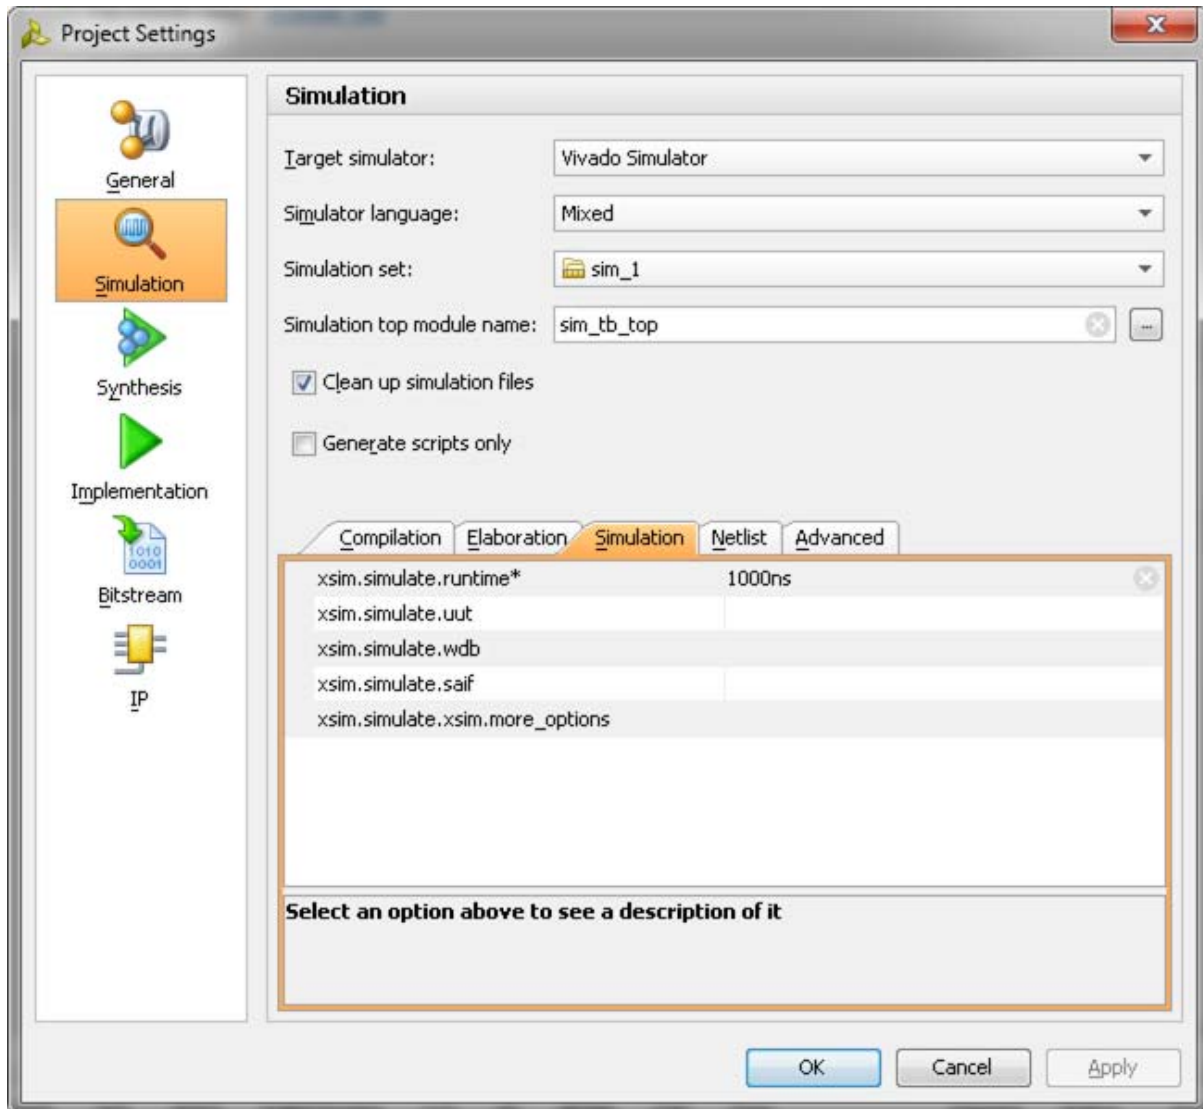

Figure 3-64: Simulation with Vivado Simulator
1. In the **Open IP Example Design** Vivado project, under **Flow Navigator**, select **Simulation Settings** (Figure 3-64).
2. Under the **Simulation** tab as shown in Figure 3-64, set the `xsim.simulate.runtime` as 1 ms (there are simulation RTL directives which stop the simulation after certain period of time, which is less than 1 ms). Apply the settings and select **OK**.
- b. Under the **Simulation** tab, set the `modelsim.simulate.runtime` to 1 ms (there are simulation RTL directives which stop the simulation after certain period of time, which is less than 1 ms), set `modelsim.simulate.vsim.more_options` to `-novopt` as shown in Figure 3-64.